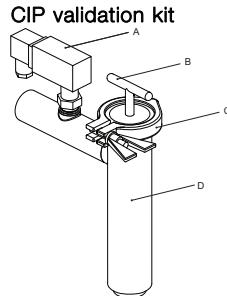

fig. 1
- CIP validation kit that enables monitoring of CIP flow to internal CIP nozzles - See fig. 1
To tank (fig. 1)